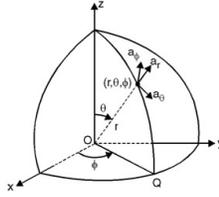

Fig. 6.1.10 : Unit vectors in spherical System
- The unit vectors in spherical system are \bar{a}_r , \bar{a}_θ and \bar{a}_ϕ . These unit vectors are perpendicular to $r = \text{constant}$, $\theta = \text{constant}$, and $\phi = \text{constant}$ surface respectively and in the increasing directions of the r , θ and ϕ respectively. In Fig. 6.1.10 only the first octant is shown for simplicity, and the unit vectors are also shown in Fig. 6.1.10.